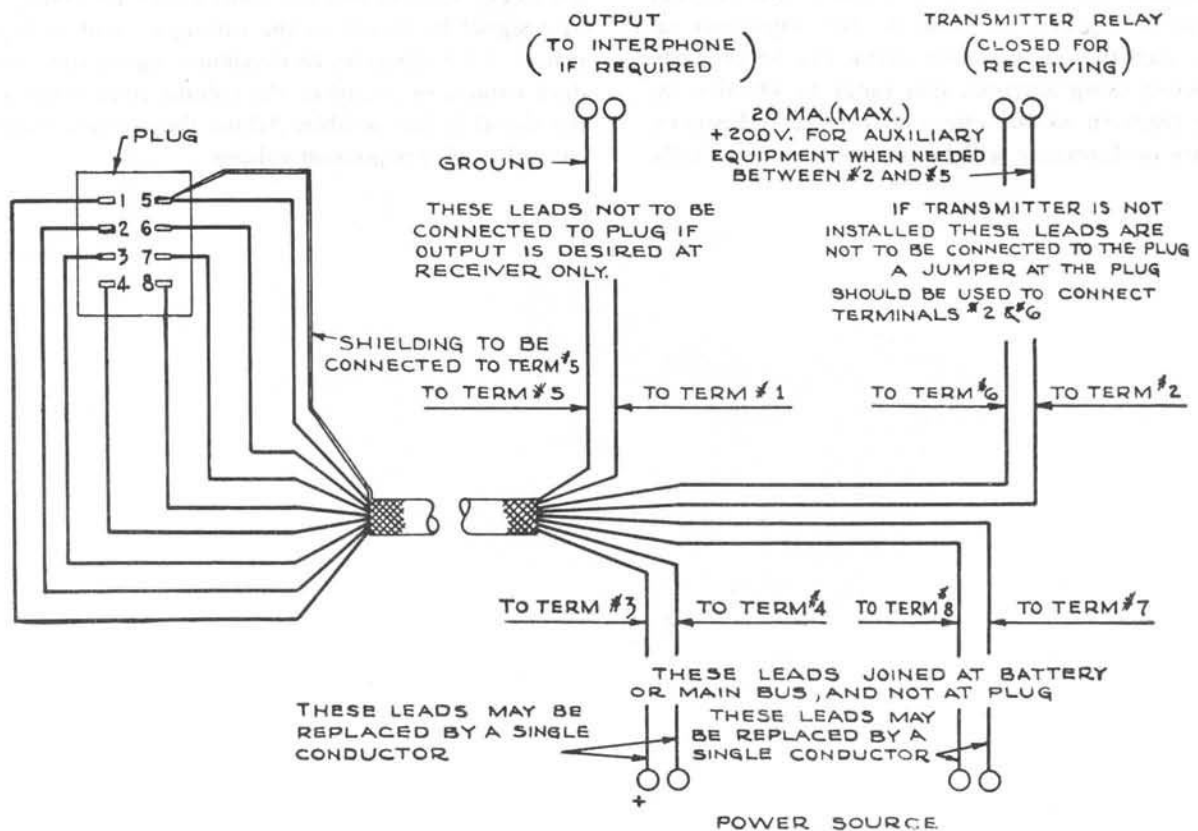

Figure 6 — Plug Connections
b. POWER CONNECTIONS.—The leads to the primary power source are connected as shown in figure 6. The parallel connected leads from plug terminals 3 and 4 may be replaced by a single conductor of cross section equivalent to the two separate leads. Similarly, the parallel connected leads from plug terminals 7 and 8 may be replaced by a single conductor of equivalent cross sectional area.